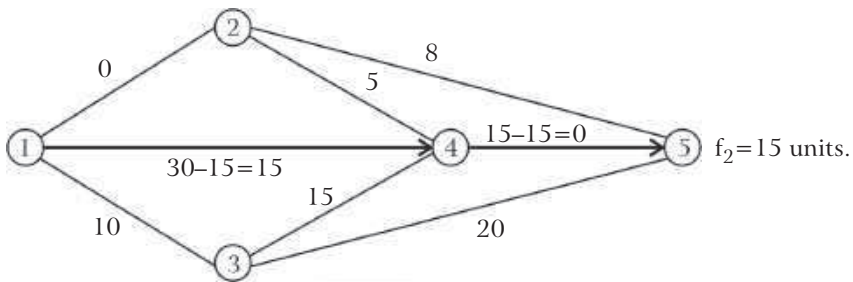

Fig. 8.30
Step 3: Consider the route 1 – 4 – 5. Then proceeding as in step 1 and 2, we get the following network (residue graph) fig. 8.30 and the maximum flow in this route is $f_2 = 15$ units. Here arc 4 – 5 is the bottleneck in this route.